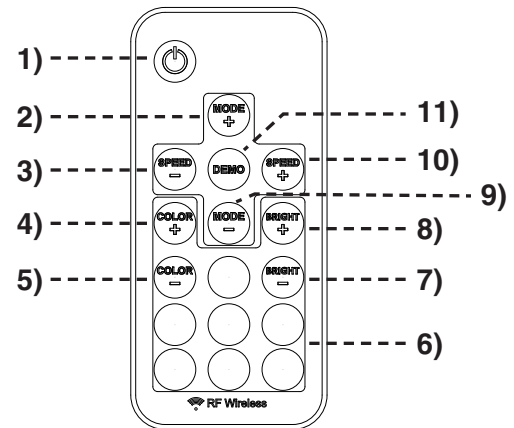
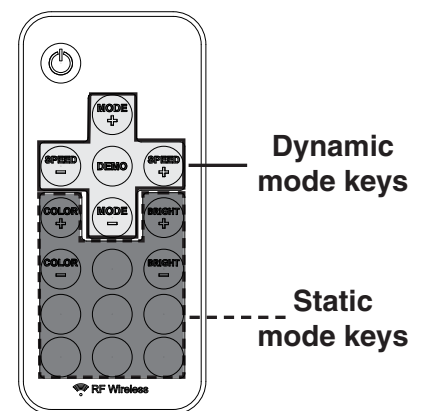

Fig. 10-1 Remote transmitter detail
Fig. 10-2 Remote transmitter modes detail
Prior to remote transmitter use, familiarize yourself with the transmitter keys as illustrated in Fig. 10-1 and Fig. 10-2.
2. Press the **POWER** key on the remote transmitter to turn the light on or off (see Fig. 10-1).
3. Use the remote as desired. Reference the above section and Fig. 10-1 and 10-2.